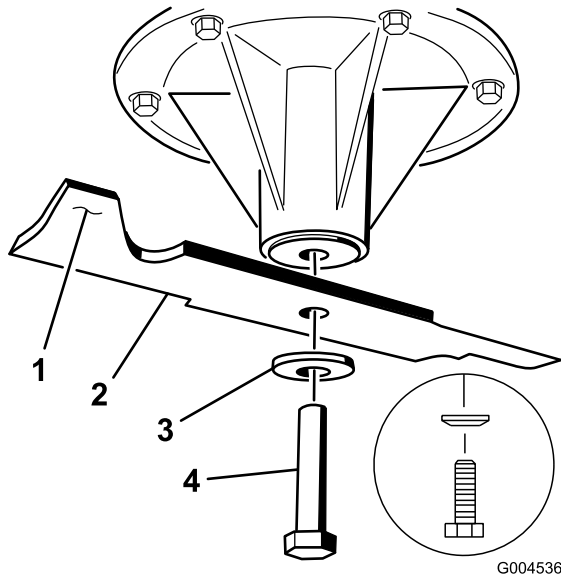
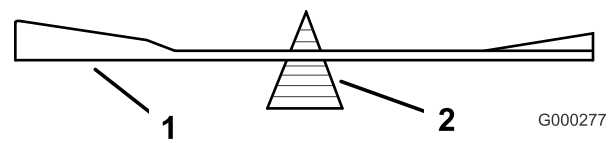

Figure 80
Figure 82
2. Remove the blade bolt, curved washer, and blade from the spindle shaft (Figure 80).
2. Check the balance of the blade by putting it on a blade balancer (Figure 82). If the blade stays in a horizontal position, the blade is balanced and can be used. If the blade is not balanced, file some metal off the end of the sail area only (Figure 80). Repeat this procedure until the blade is balanced.